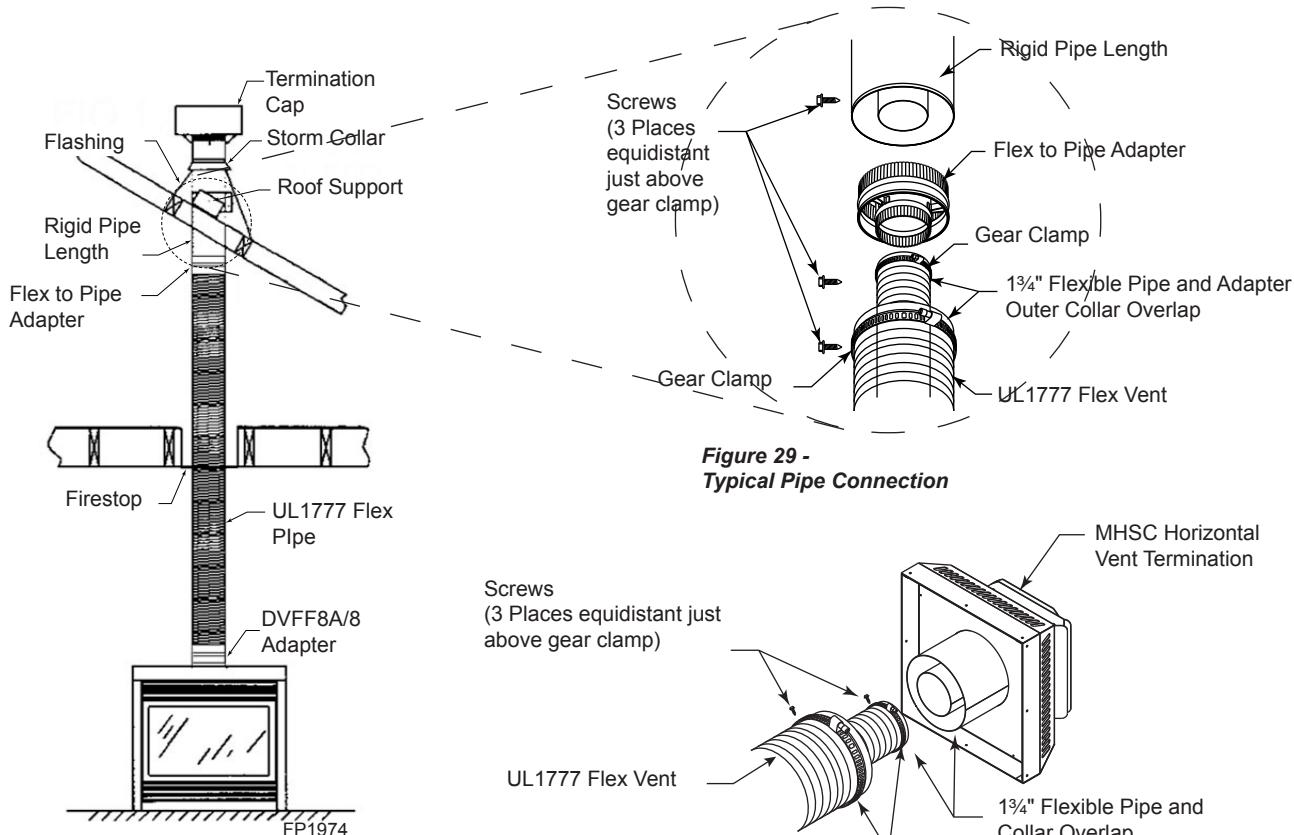

Figure 28 -
2. Install firestop spacers, *Figure 28*, when penetrating ceiling, attic spaces, or walls.
4. Use only listed and approved terminations and accessories, installed per the installation instructions and *Figure 28*.